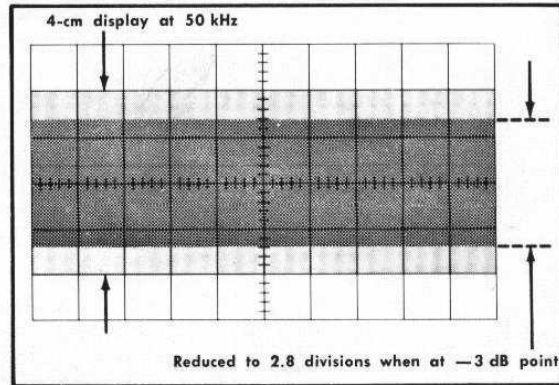

Fig. 5-6. Double exposure to show CRT display when checking the frequency response.
- Increase the frequency of the Constant Amplitude Signal Generator until the display amplitude has decreased to 2.8 cm. See Fig. 5-6. **(-3 dB's)**